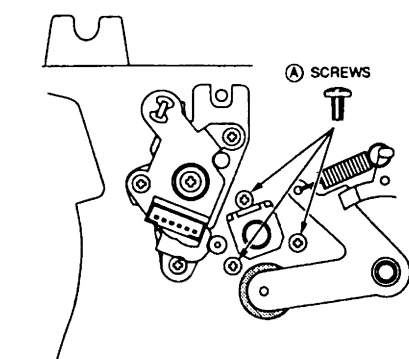

Fig 19.
- 1: Remove the three (A) screws as shown in Fig 19.